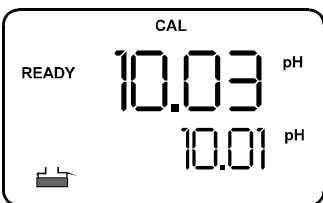

Figure 4: 3rd-point calibration
18. Wait for the measured pH value to stabilize (when the [READY] indicator displays in the left-hand corner) (see Figure 4).